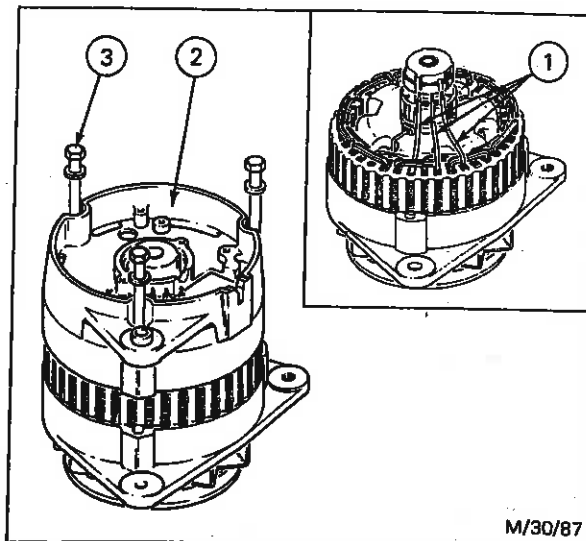

Fig. 40 - Assembling Stator and Slip Ring End Bracket
3. As shown in the inset of Fig. 40, fit the stator assembly in the drive end bracket so that the stator connecting leads (1) are centrally positioned between the alternator fixing lugs, then assemble the slip ring end bracket (2) to the stator laminations and finally secure into a sub-assembly by fitting the through bolts (3). Tighten bolts to the torque value given in 'Specifications'.